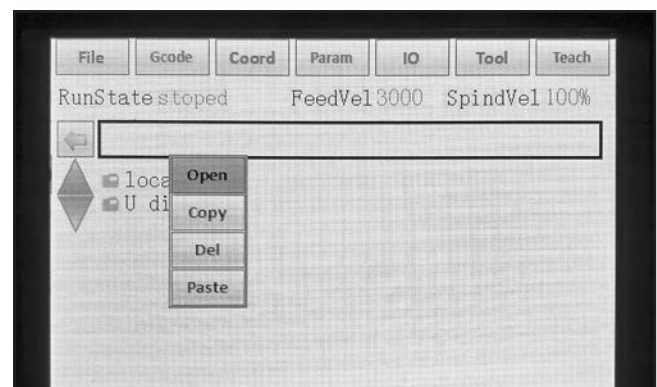

Figure 34. Example of dialog box on file screen.
6. Navigate to **tool.tbl** file and press "Enter" button, then navigate to "Copy" soft key (see **Figure 34**) and press "Enter" button to copy file.